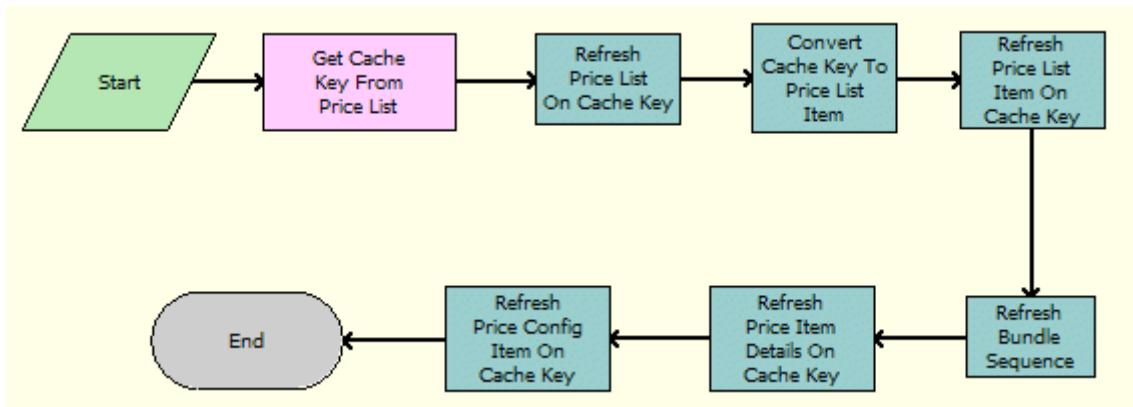

Figure 33. Example of a Clear Cache Workflow Process
- b Invokes the Refresh BC On Cache Key method for each business component that shares the same cache key. Figure 33 shows an example of a Clear Cache workflow.